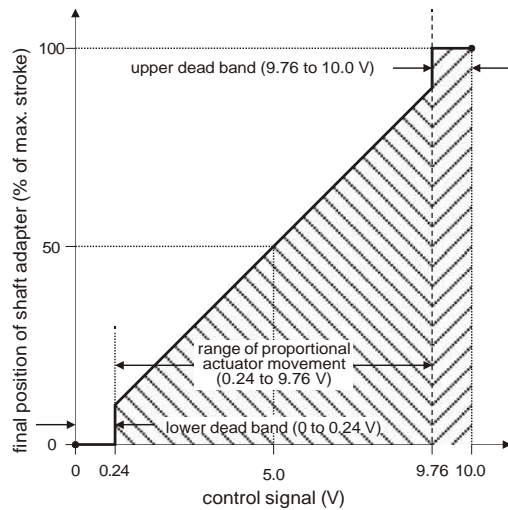

Fig.4. Final actuator position in dependence upon control signal (example selection setting of 0...10 V)
- the control signal's value rises up into the upper dead band (i.e to more than the max. control signal minus 0.14V) or drops down into the lower dead band (i.e to less than the min. control signal plus 0.14V), and if the shaft adapter can remain at the respective (upper or lower) mechanical end limit at least 3 seconds, the actuator will recognize the new position automatically, and auto-adaption is happened (see Fig. 4).